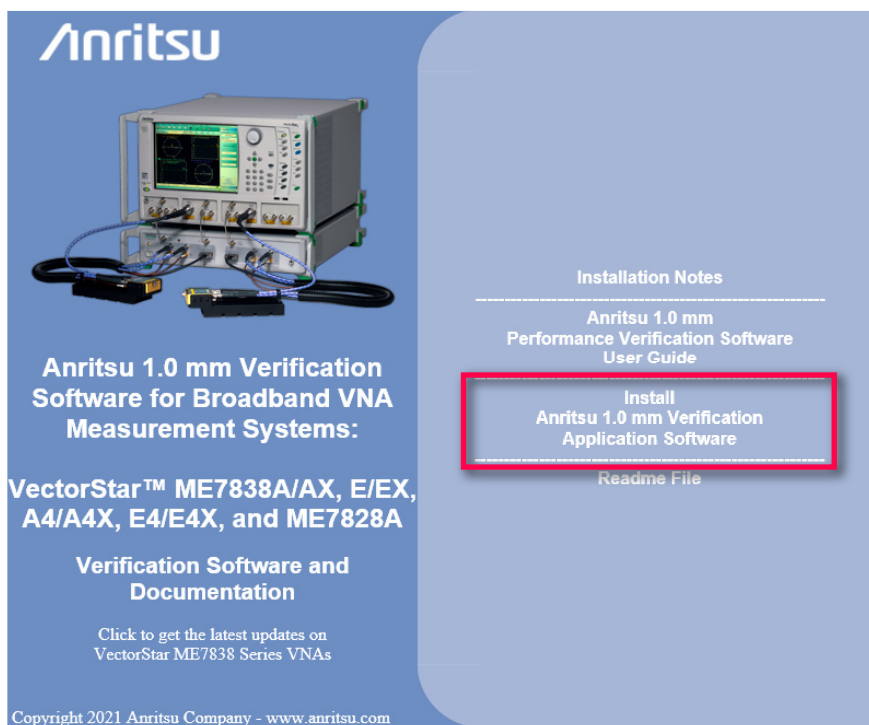

Figure 2-1. PVS Installation and Documentation Screen
10. The installer adds all required files and makes the necessary registry updates on the PC Controller. When done, the navigation page (Figure 2-1) reappears.